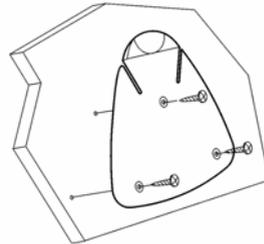

Fig. 2
2. Drill three 2mm holes marked "BRACKET" on the Template and using the supplied self tapping screws, attach the clip bracket to the mounting surface (Fig.2).